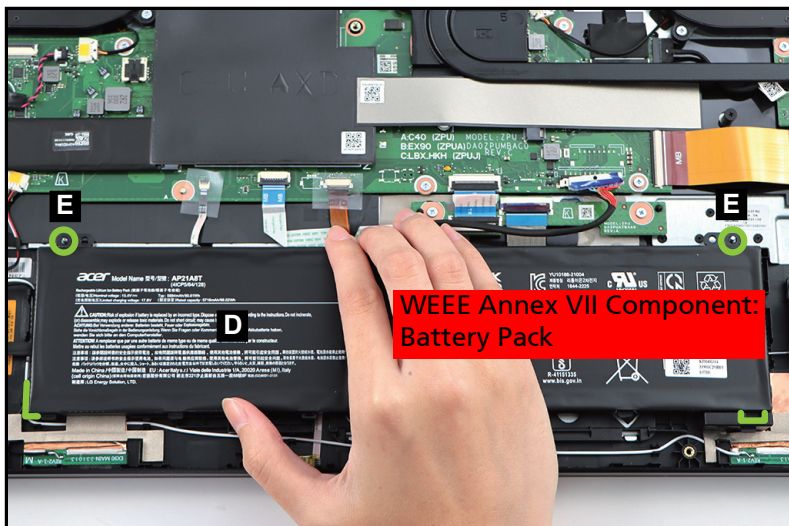

Figure 1-10. Battery Pack Removal
4. Lift the battery pack (D) to release it from the guide pins (E) and the compartment studs (highlighted with the green lines) (Figure 1-10). Then remove the battery pack.